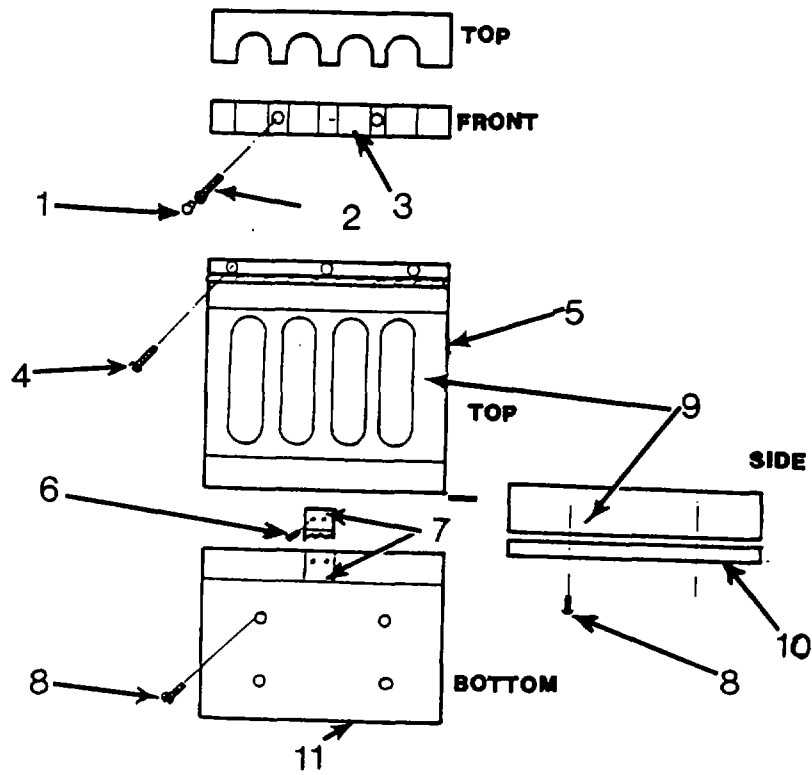

Figure 4-35. Repair Rifle Rack Assembly
4-28. RIFLE RACK ASSEMBLY. Refer to figure 4-35 for location of components and hardware of rifle rack assembly.
- a. Repair by replacing upper rifle rack. (See Figure 4-35.)
- (1) Remove caps (1), screws (2), and upper rifle rack (3).
- (2) Position replacement upper rifle rack (3) over holes and secure with screws (2). Install caps (1).
- b. Repair by replacing lower rifle rack. (See Figure 4-35.)
- (1) Remove screws (4) and lower rifle rack (5).
- (2) Position replacement lower rifle rack (5) and secure with screws (4).
- c. Repair by replacing hook and pile fastener. (See Figure 4-35.)
- (1) Using electric drill, drill out rivets (6) and remove hook and pile fastener (7).
- (2) Position replacement hook and pile fastener (7) and using blind riveter install rivets (6).
- d. Repair by replacing rubber mat. (See Figure 4-35.)
- (1) Remove screws (8), lower rifle guide (9), and rubber mat (10).